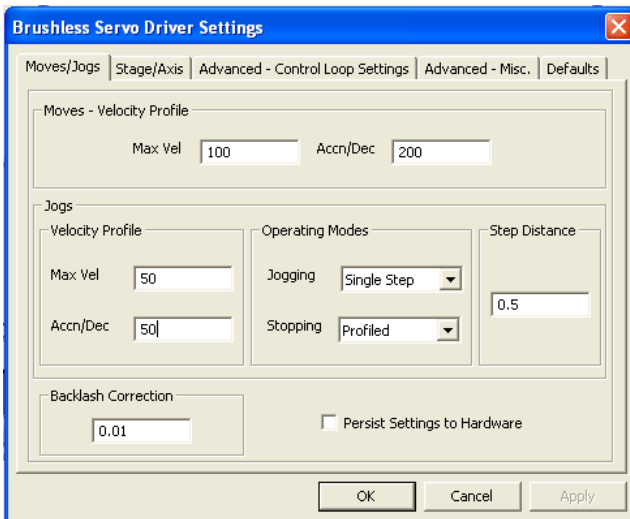

Fig. 5.4 Settings Panel - Move/Jogs Tab
- 2) Select the Move/Jogs tab as shown in Fig. 5.4.